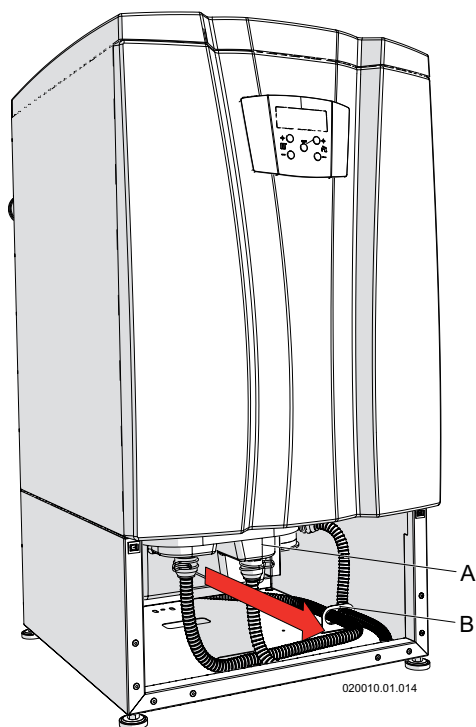

Figure 15-10 Condensate trap and neutralizing box removing
2. pull out the condensate box "A" (Figure 15-10);